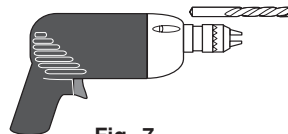

Fig. 7
- Electric drill & 1/8" dia. bit (5/32" Masonry drill bit if installing in concrete (Fig. 7).